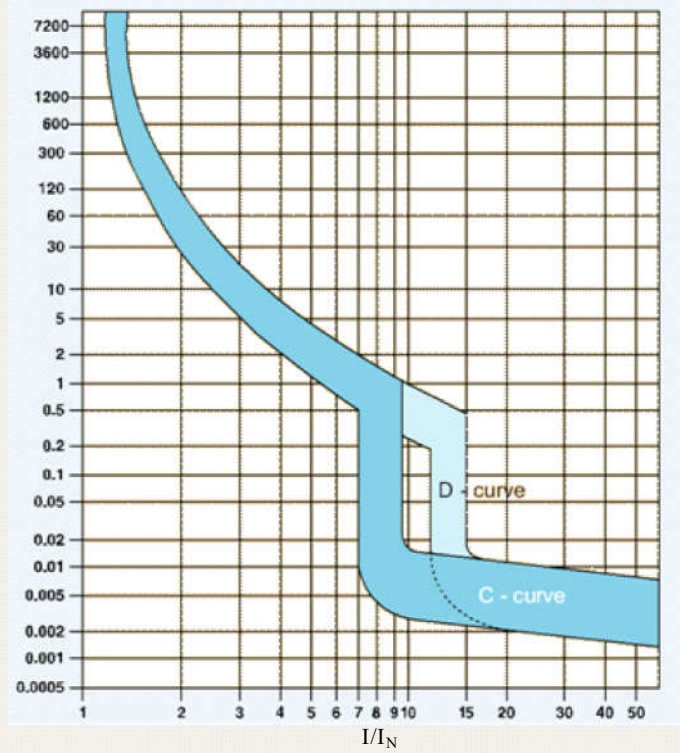

figure 2. – www.clipsal.com
4. Draw on figure 2 a line to show the multiple of rated current. Will the circuit breaker operate (trip), if so in what time? Y / N	Max _____ Min _____